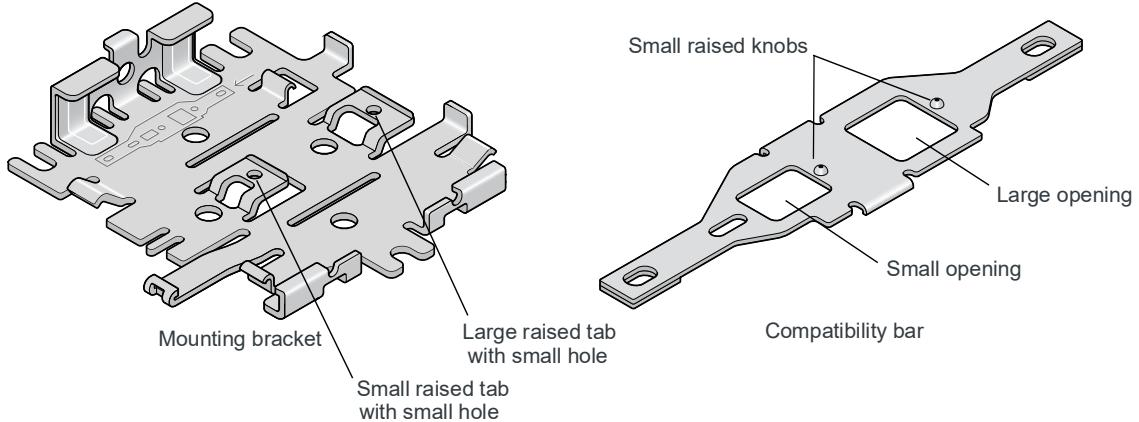

Figure 2-9: Mounting bracket and compatibility bar
1. Note the large and small raised tabs on the bracket. Each tab has a small hole in the center of the raised portion. Also note the large and small rectangular openings in the compatibility bar. See Figure 2-9.